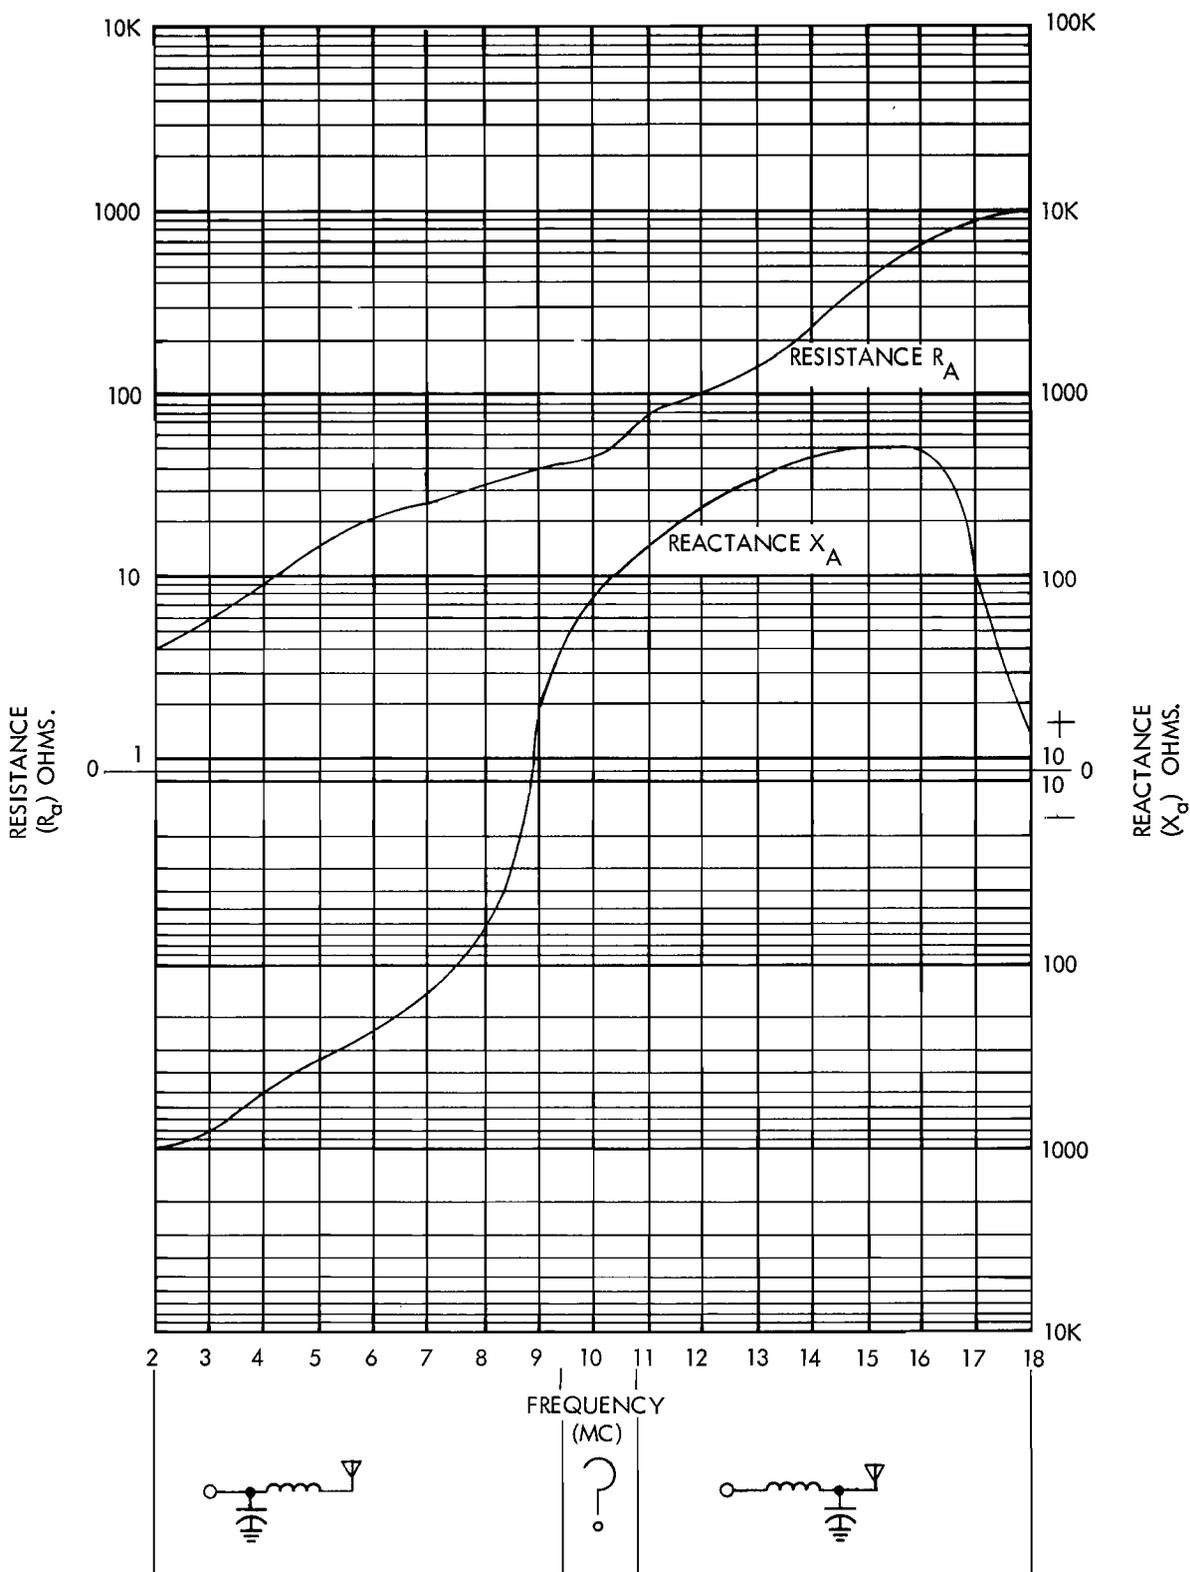

Figure 4-13. Reactance Chart for Unloaded 24-Foot, Fiberglass, Whip Antenna
To program the Antenna Coupler, it is necessary to know something about the antenna to be matched. Three charts (Figures 4-13 through 4-15) are given with this alignment procedure, each for a different antenna commonly used on small boats.
- b. Refer to the chart (Figures 4-13, 4-14, and 4-15) for the desired antenna.
- a. Refer to Figure 4-13; note that $R_A = 15$ ohms and $X_A = j-370$ ohms at 5 Mc.